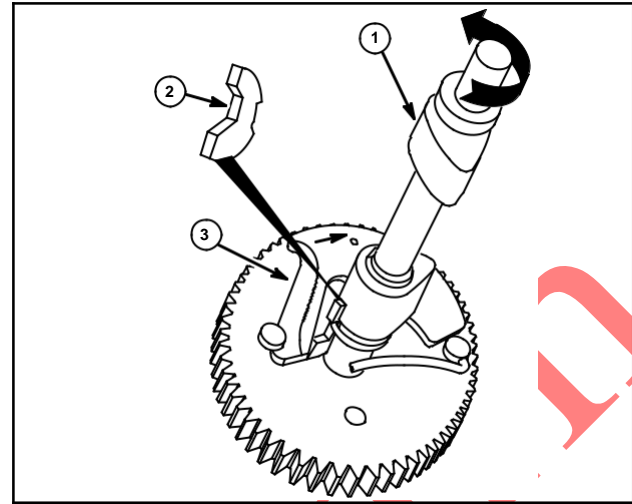

Fig. 9
1. To check, move actuator cam to the running position, Fig. 9.